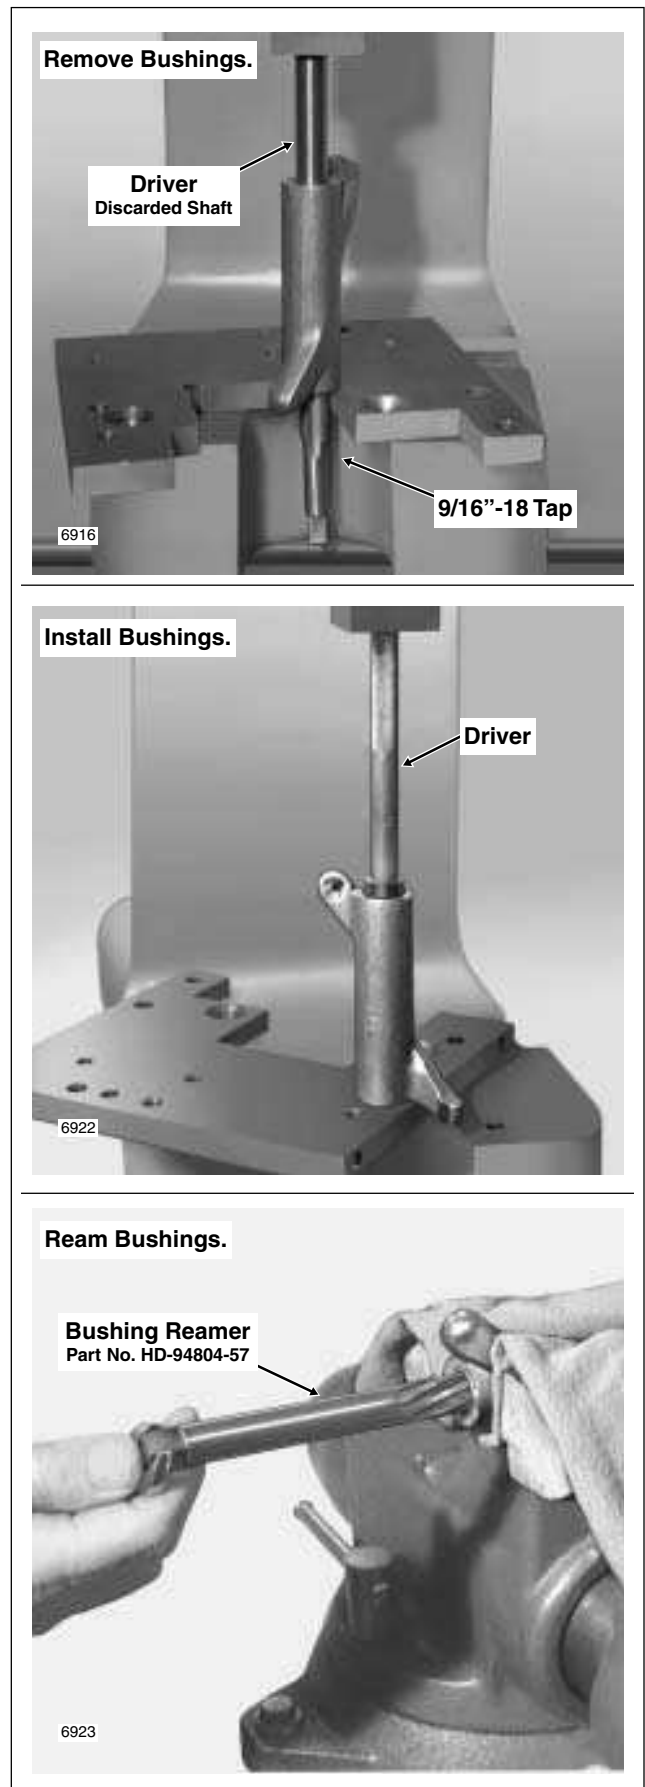

Figure 3-59. Replace Rocker Arm Bushings
- a. Obtain a 9/16"-18 (14.29 mm) tap. Turn tap into bushing until tight. Place rocker arm under ram of arbor press with tap at bottom. Slide a discarded rocker arm shaft through open end of rocker arm until contact is made with tap. Using shaft as driver (and untapped bushing as pilot), press against shaft until both tap and bushing are free. See upper frame of Figure 3-59.
- b. Using a suitable driver, press **new** bushing into side of rocker arm until flush with casting. See center frame of Figure 3-59. Be sure to orient bushing so that split line faces top of rocker arm.
- c. Lock rocker arm in a vise using brass jaw inserts or shop towels to prevent casting damage. Insert tapered end of ROCKER ARM BUSHING REAMER (HD-94804-57) into old bushing in rocker arm. Note that old bushing on drive side of reamer serves as pilot. See lower frame of Figure 3-59. Rotate reamer until new bushing on far side is reamed, and then continuing in the same direction, draw drive side of reamer from new bushing.